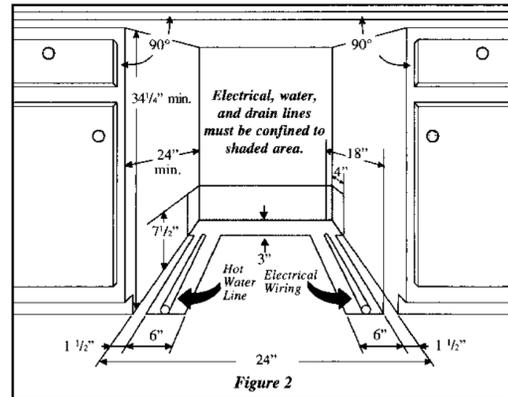

Figure 2
**IMPORTANT:** For proper operation and appearance of unit, cabinet opening should have dimensions as shown in Figure 2. If unit is to be placed in a corner, there must be at least a 2-inch side clearance to open door.
Electrical, water, and drain lines must be confined to shaded areas in Figure 2. Electric conductors, water, and drain could be damaged. Failure to follow these instructions could result in fire or electric shock.
2. All connections must be made in shaded area in Figure 2.
3. Cut access hole in shaded area shown in Figure 2.
4. Cut water access hole in shaded area in Figure 2.
5. Before cutting drain hose access, check both sides of selected area to avoid interference. Cut a 2" diameter hole in shaded area shown in Figure 2.